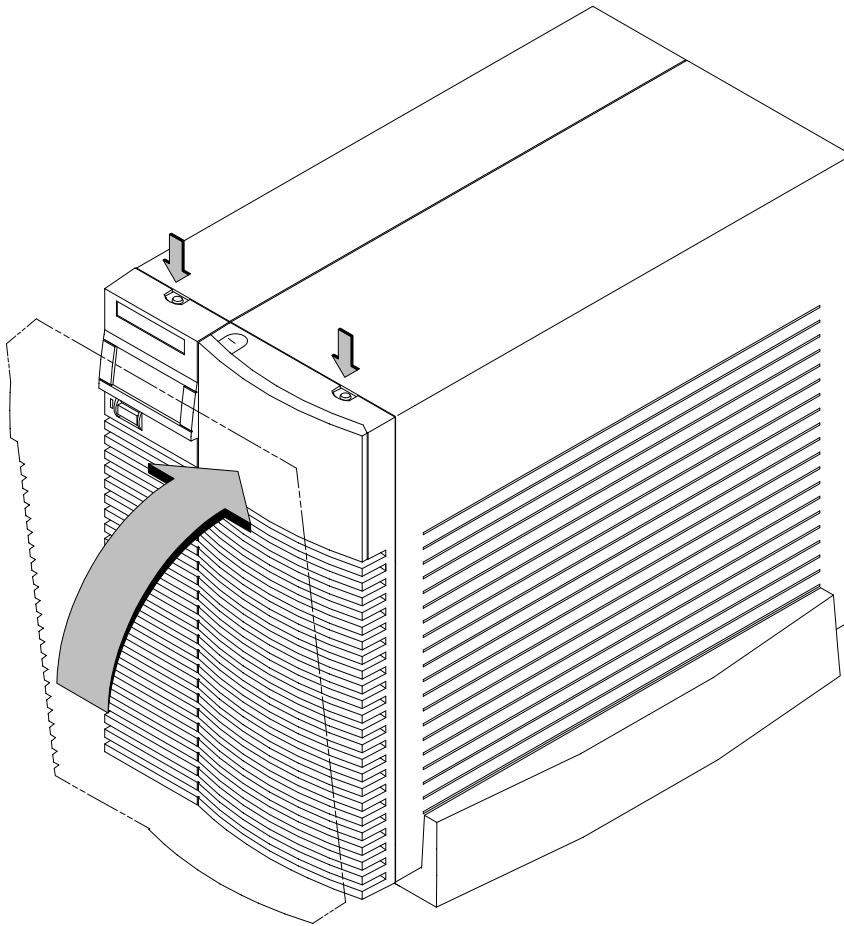

Figure A-2. Replacing the Front Panel
2. Swing the front cover up, and push it firmly into the workstation housing. The front panel edges automatically align with the workstation housing, and the top latch buttons pop up into position. See Figure A-2.